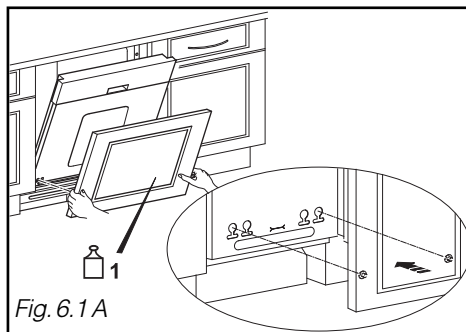

Fig. 6.1 A
- Position your door panel by engaging the 2 screws in the holes in the dishwasher's door (Fig. 6.1)
- Take Dimension **B** from Fig. 6.1 and measure the gap **J** between the floor and the bottom of the dishwasher. Calculate **B - J**.